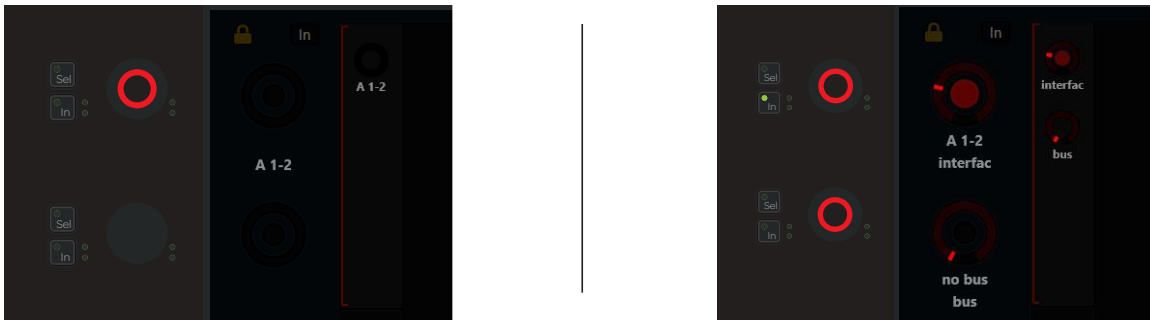

Figure 2. Top level Input knob set ((at left) and interface/bus knob set (at right)
- 2 Navigate to the Home screen and tap to select **Input** in the Function scroller. The upper left knob shows the currently assigned input source. (See Figure 2, left image.)
- To select a different source, press the upper left knob; the two upper left knobs display **interface** and **bus** sources. (See Figure 2, right image.) Rotate the corresponding knob until the desired source is shown, then press that knob's **In** switch.